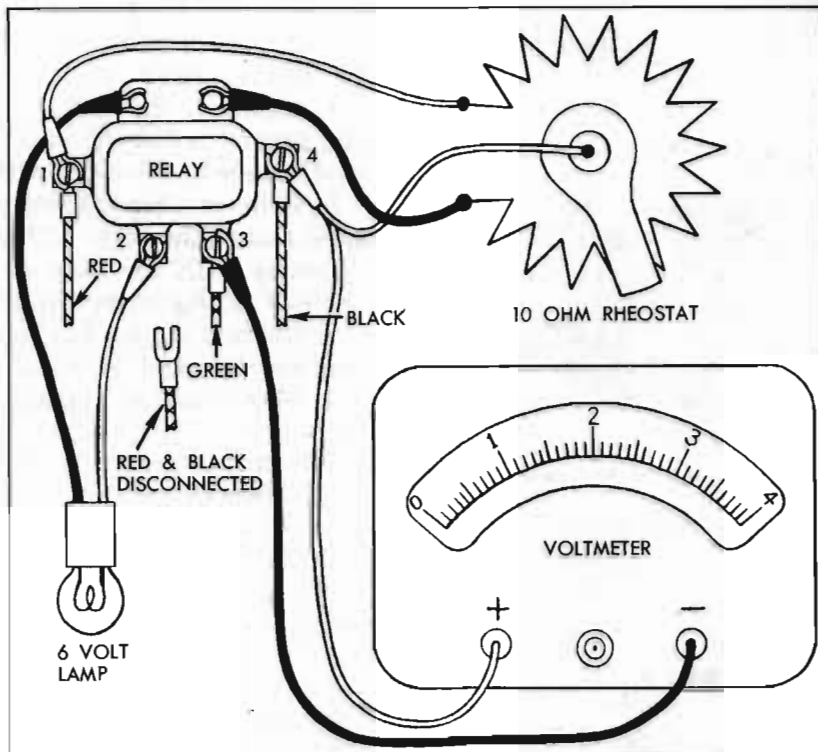
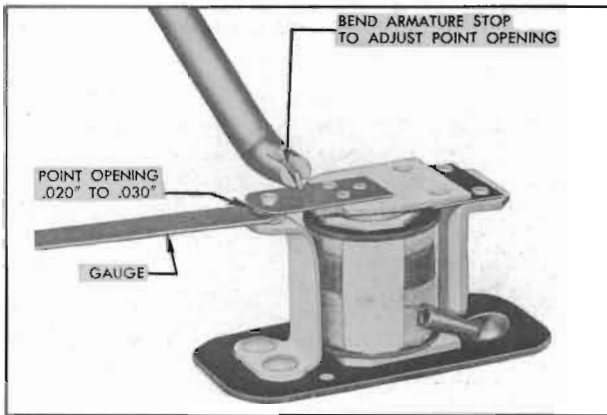

Figure 10-49—Solenoid Switch Relay Test Connections
Figure 10-51—Relay Contact Point Adjustment
1. With ignition switch turned off, remove red and black cross wire from relay terminal marked (2) in figure 10-49.
2. Connect 6-volt test lamp between relay terminal marked (2) and ground on relay mounting bolt.
3. Connect lead attached to rotating arm of rheostat to relay terminal marked (4). Connect one resistance lead to relay terminal marked (1) and connect the opposite lead to relay mounting bolt. See figure 10-49.
4. Connect leads of low reading voltmeter to relay terminals marked (3) and (4).
3. With armature free, check contact point opening with feeler gauges. Point opening should be between .020" and .030" and may be adjusted, if necessary, by bending the upper armature stop. See figure 10-51.
4. Connect the positive terminal of a 6-volt battery to relay terminal marked (1); connect the negative terminal of battery to relay terminal marked (3) and also to ground on relay mounting bracket.
5. Connect a 6-volt test lamp, low reading voltmeter and 10 ohm rheostat to relay terminals as shown in figure 10-49.